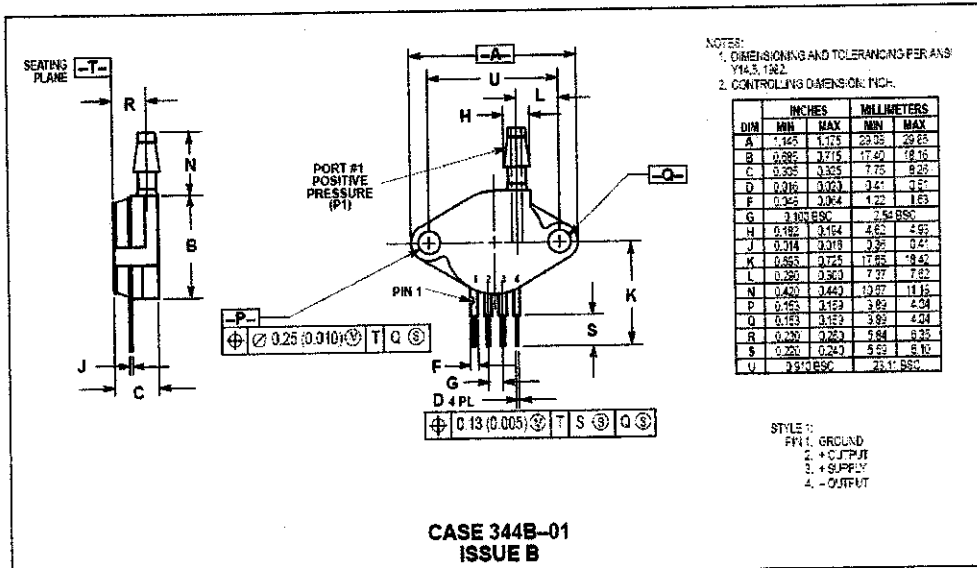

Figure 7: Motorola MPX50GP Pressure Sensor Dimensions [6]
- Figure 7:** Motorola MPX50GP Pressure Sensor Dimensions